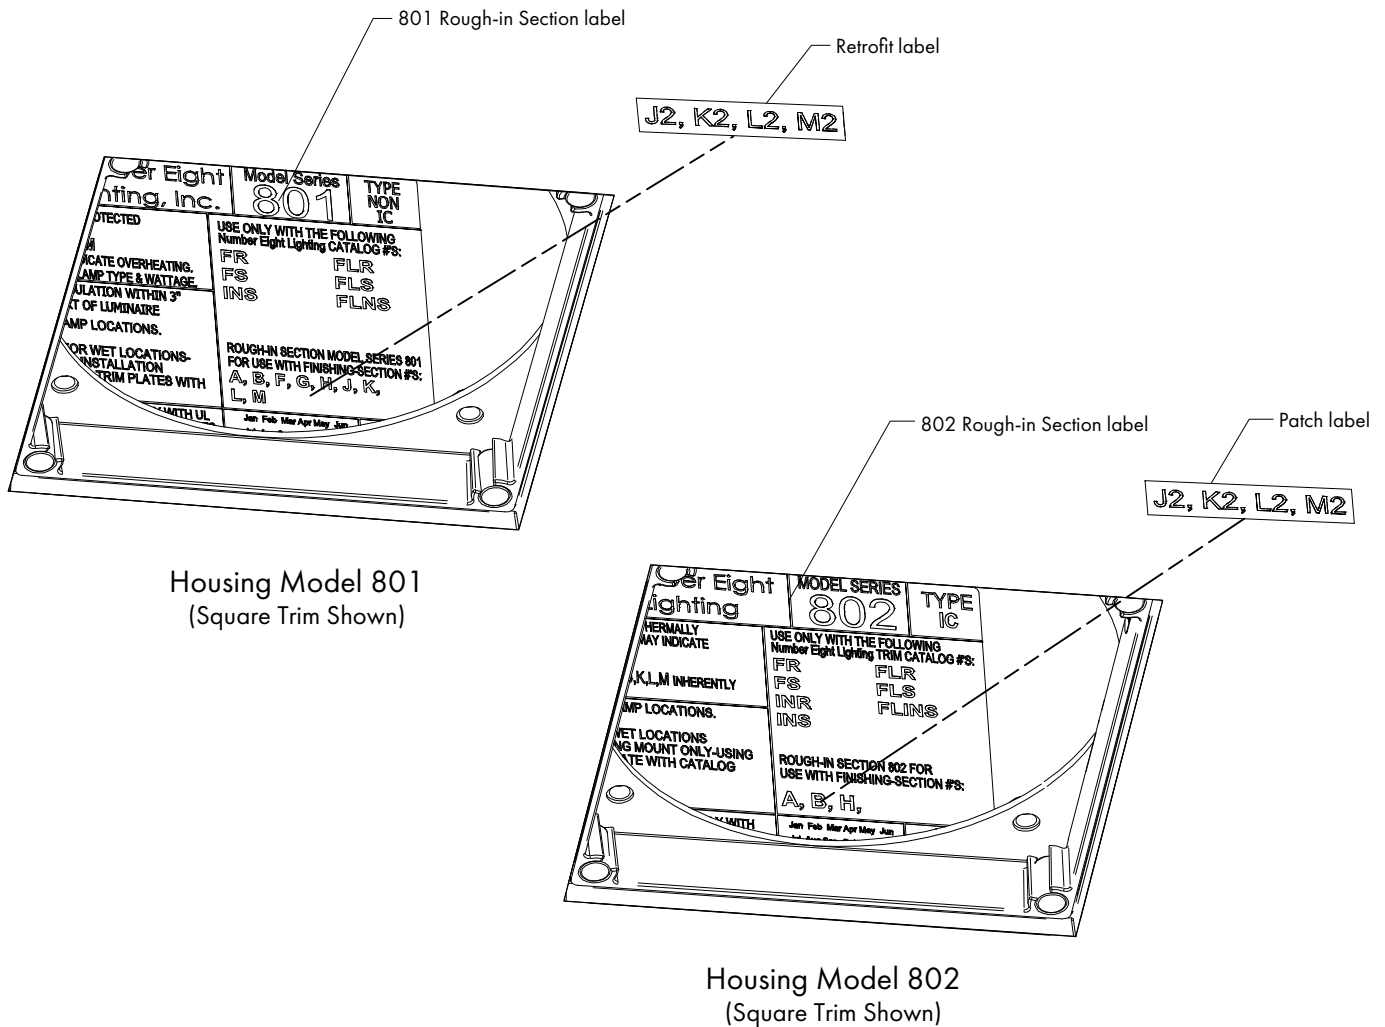

FIG 6.1 Applying Retrofit Label
Before installing the retrofit Lamp Module, place the Retrofit Label onto the Rough-in Section label located inside the 801 or 802 housing - **FIG 6.1**.
STEP 2 Peel the backing off of the Retrofit label & adhere label on top of the existing lamp module letters found on the Rough-in Section Label completely covering the old lamp model designations- **FIG 6.1**.